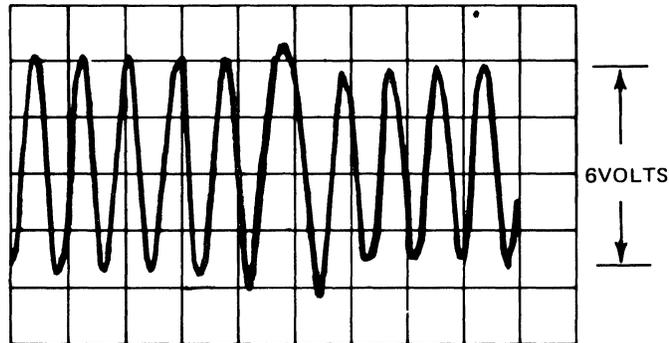

Figure 5-7. Amplifier Waveform (TP104)
- h. Adjust potentiometer R112 until the analog signal displayed on the oscilloscope is 6 volts peak-to-peak. (Refer to figure 5-7).